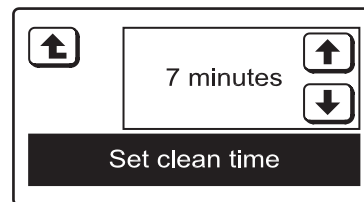

FIG. 62
6. Press the SET CLEAN TIME button and the display will change to show the **Set clean time** screen (See Figure 62).